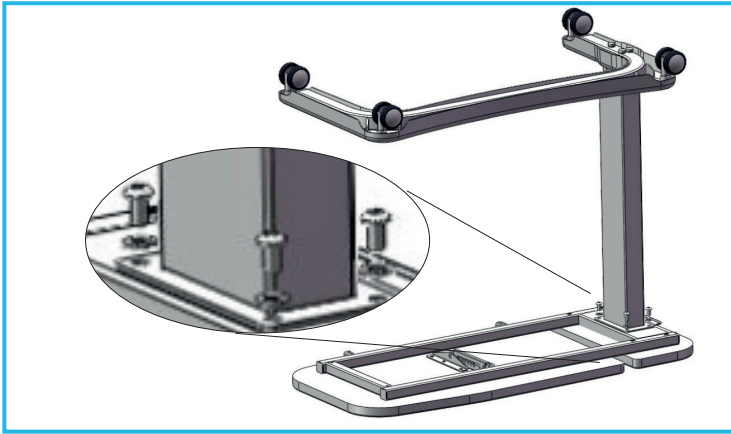

Figure 6
- Carefully put the Table Top upside down on the floor. See Figure 6.
- Locate the column and base assembly in position, see Figure 6.